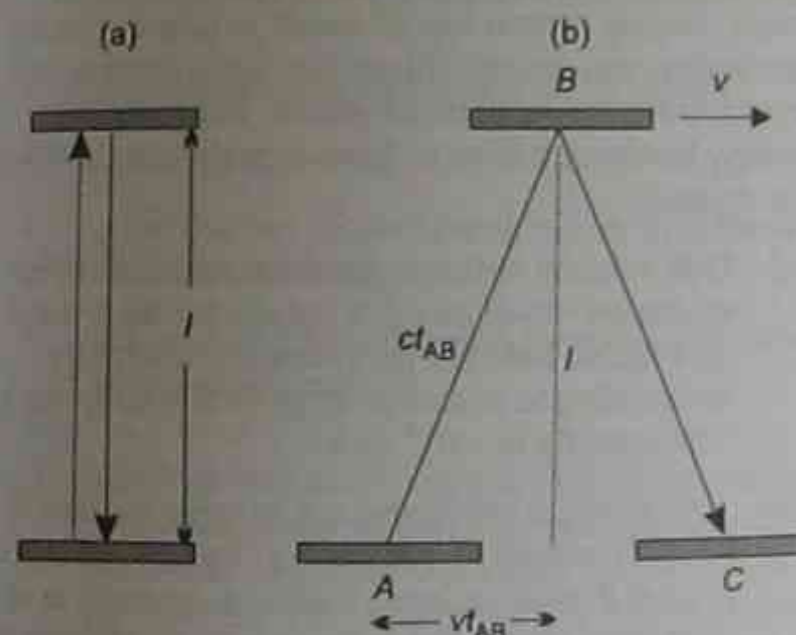

Figure 7.16
- 19 (a) Consider a simple light 'clock' as shown in Figure 7.16(a).
The clock operates by bouncing a light beam from mirrors. The clock registers one click for one complete up and down motion. When viewed by an observer travelling with the clock, the light follows the path as indicated in Figure 7.16(a). From the point of view of an observer who sees the clock moving past at constant speed, the path is as in Figure 7.16(b). This path is longer than that in Figure 7.16(a) and since both observers agree on the speed of light as c, then the outside observer must conclude that time goes slower in the moving frame!